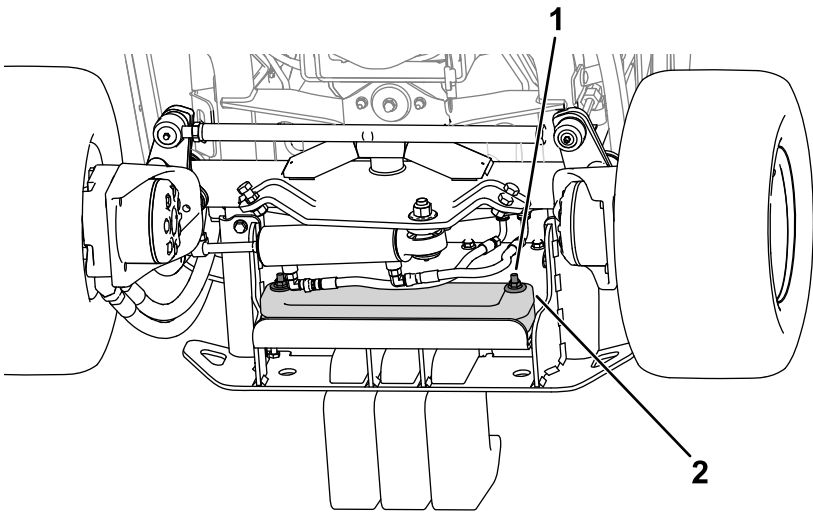

Figure 20
- 2. Use the hardware to secure the weights to the bumper (Figure 20).